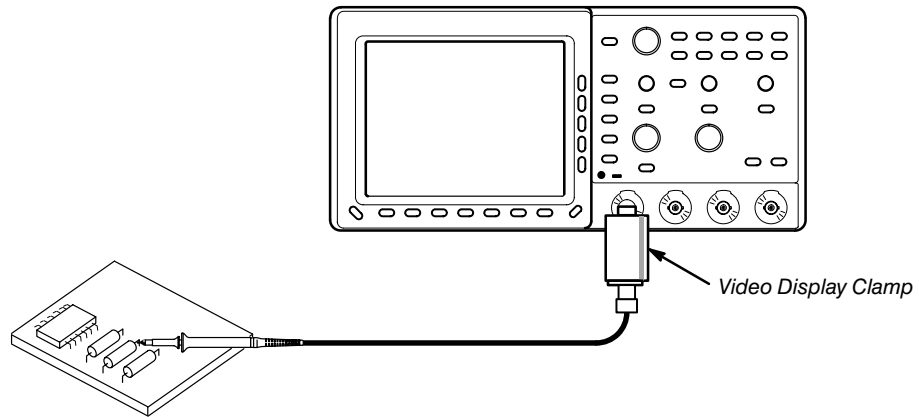

Figure 5: Probing Circuits with the Video Display Clamp
- Connect a 1X probe directly to the Video Display Clamp to probe video circuits (see Figure 5). The bandwidth of the Video Display Clamp may be compromised due to the probes characteristics.